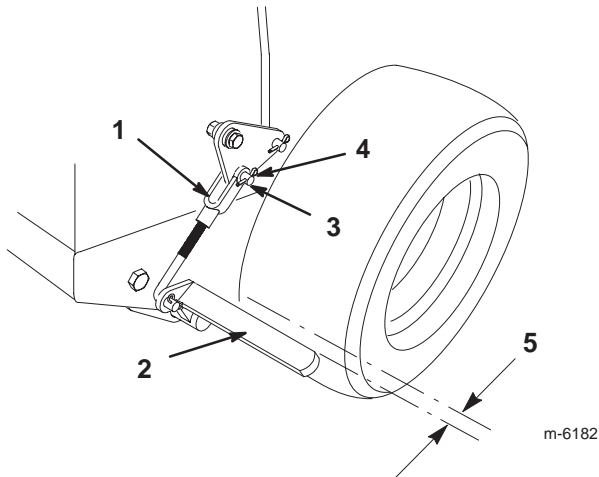

Figure 56
3. Remove the hair pin cotter and the clevis pin from the lower brake lever (Fig. 56).
4. Rotate the brake linkage yoke in to tighten the parking brake; rotate the brake linkage yoke out to loosen the parking brake (Fig. 56).
Note: There should be an approximately 1/4 in. clearance between the tire and the flat bar when the parking brake in the released position (Fig. 56).
5. Secure the brake linkage yoke to the lower brake lever with the hair pin cotter and the clevis pin (Fig. 56).